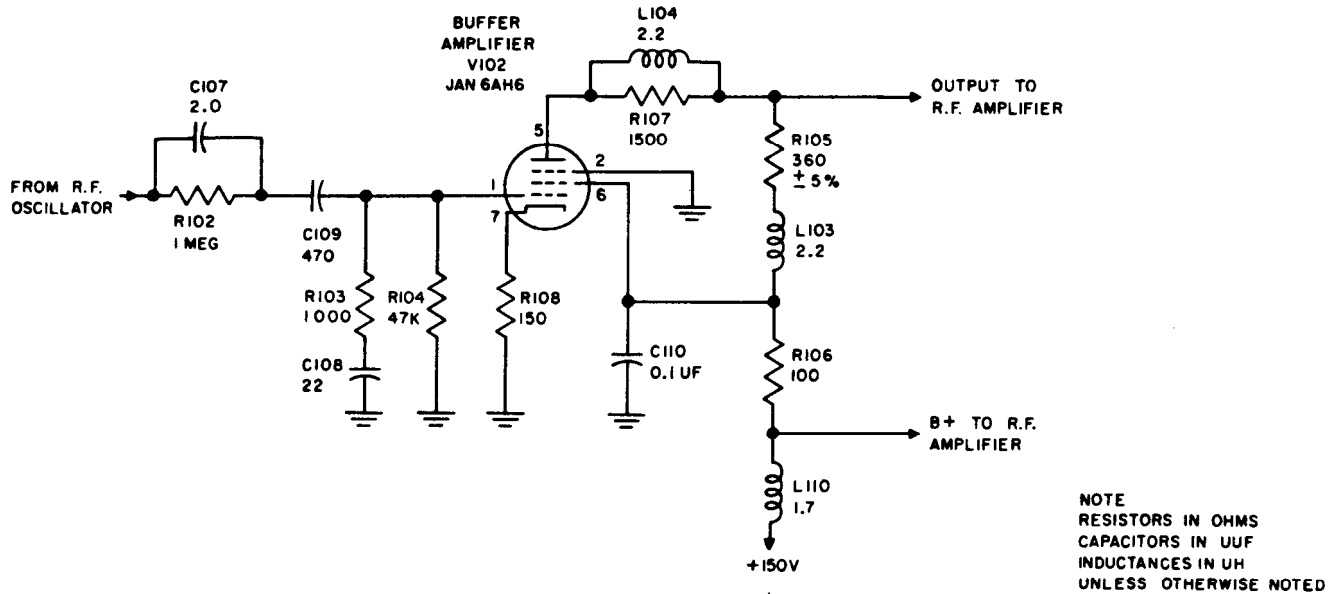

Figure 2-3. Buffer Amplifier Simplified Schematic
3. BUFFER AMPLIFIER. (See figure 2-3.)